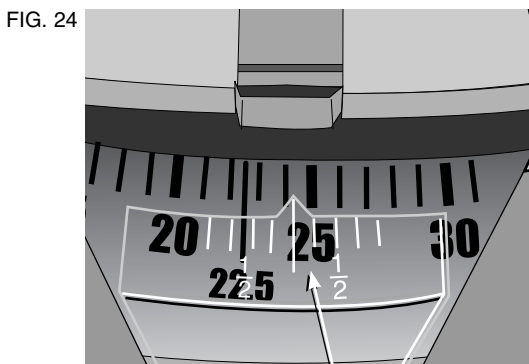

FIG. 24
3. To set the additional 1/4°, squeeze the miter arm lock and carefully move the arm to the RIGHT until the 1/4° vernier mark aligns with the CLOSEST degree mark on the miter scale. In our example, the closest degree mark on the miter scale happens to be 25°. Figure 24 shows a setting of 24-1/4° right miter.